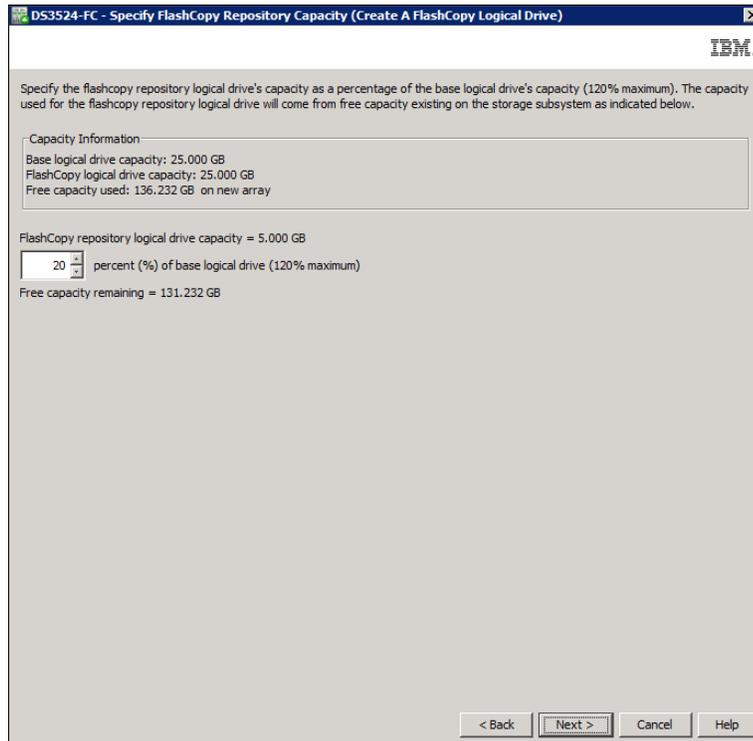

Figure 2-20 Create FlashCopy Logical Drive Wizard: Specify repository logical drive capacity
- d. The Specify Repository Capacity window (Figure 2-20) is displayed. Set the repository drive capacity as a percentage of the base logical drive's capacity (the default is 20%). Click **Next** to continue.